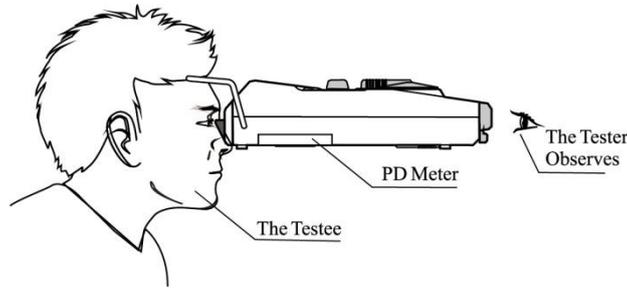

Fig.6
b. Put the forehead bearer lightly on the testees's forehead, and nose bearer lightly on testee's nose bridge, then keep the device in a horizontal state(as shown in Fig.6).